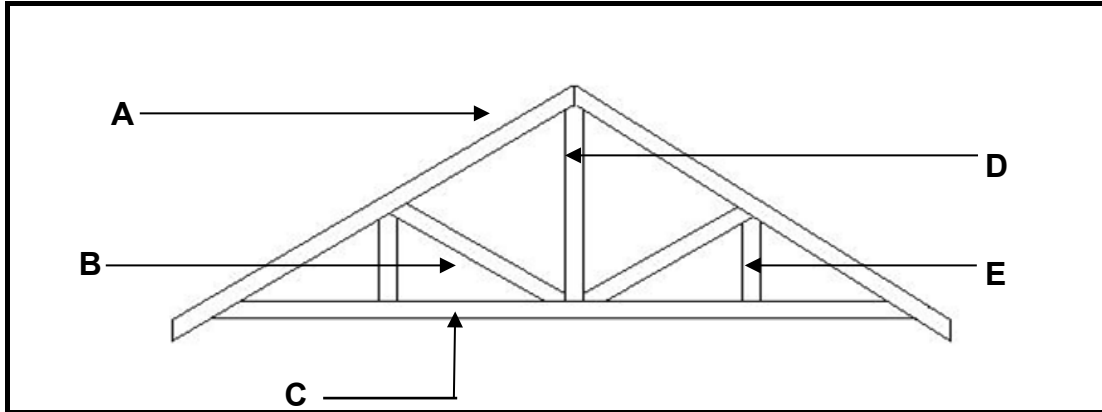

FIGURE 3.1
3.1 Answer the questions about the roof truss in FIGURE 3.1.